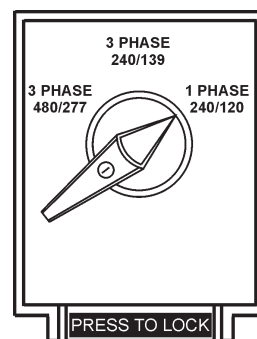

Figure 29. Voltage Selector Switch 240/120V Single-Phase Position
1. Place the voltage selector switch in the 1Ø 240/120 position as shown in Figure 29.